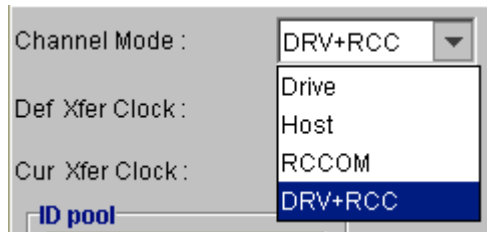

Figure 7-3: Selecting the Channel Mode
- Step 3.** If you are using a SCSI-to-SCSI controller, select the channel mode from the **Channel Mode** drop-down menu shown in *Figure 7-3*. To select, click on the down-arrow button at the right of the box, then select the option you want. If you want to configure the selected channel as a host channel, select **Host**; to configure as a drive channel, select **Drive**.